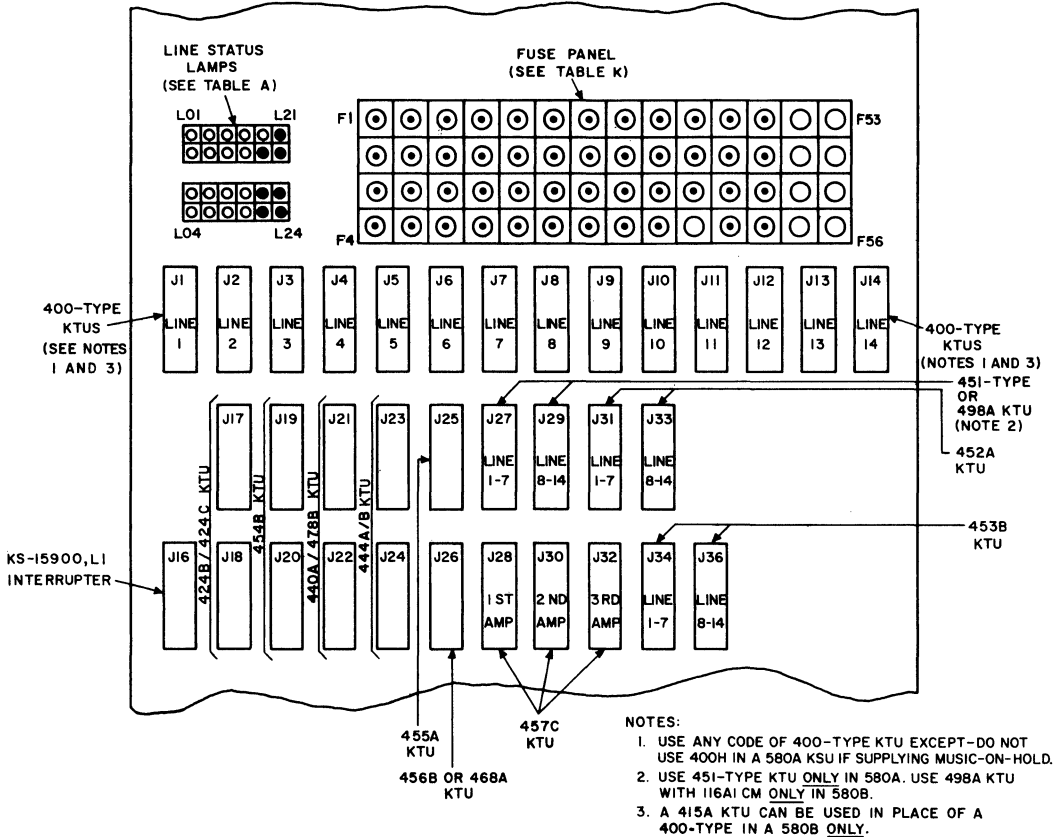

Fig. 3—580-Type KSU, Fuse Panel, Lamp Panel, and KTU Connector Arrangement
- Fuse panel (Fig. 3) which provides power distribution to connectors and station blocks.
- Status lamps (Table A and Fig. 3) to indicate status of CO/PBX and intercom lines.
**2.13** The lamp panel in the 580-type KSU provides a status lamp for each CO/PBX line and intercom path. The lamps give the same indication of line status (flash, steady, wink) as the line lamps on the telephone sets. See Fig. 3 and Table A.